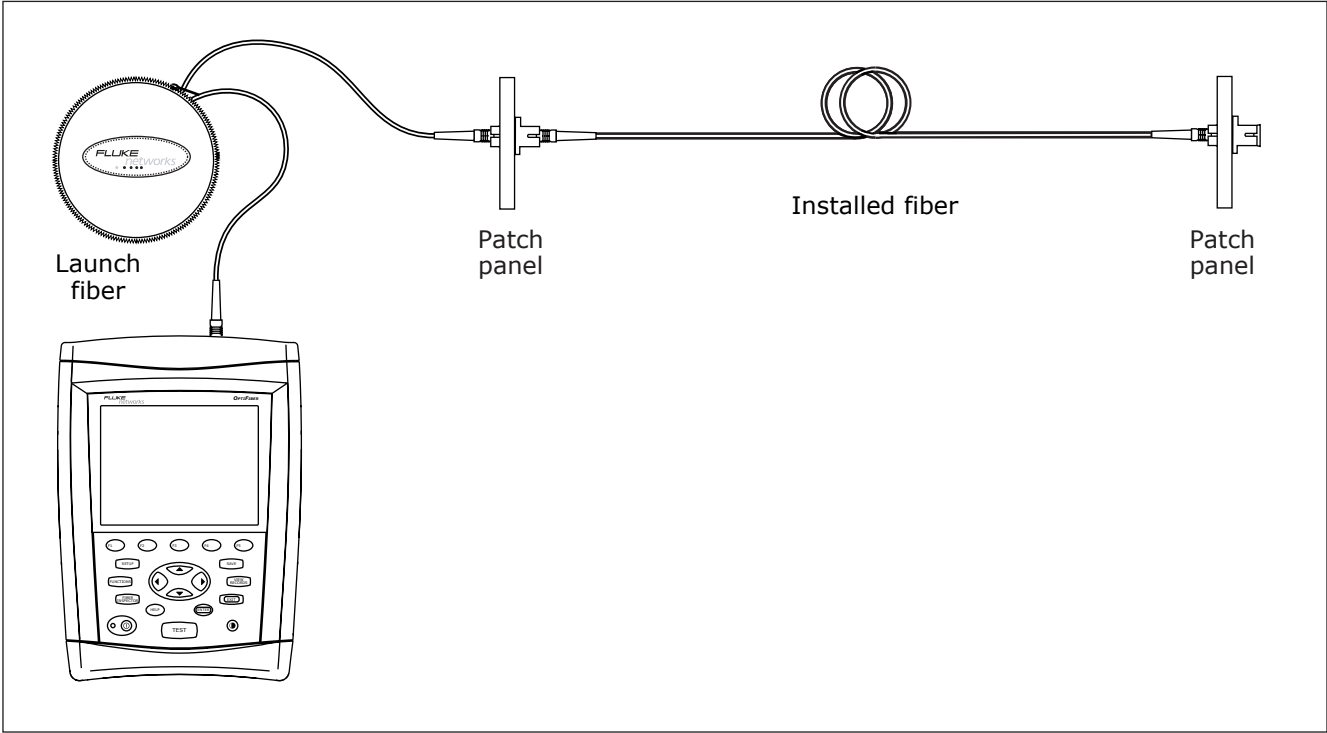

Figure 9. Connecting the OTDR to Installed Fiber (no receive fiber)
- 6 Connect the tester's OTDR port to the cabling, as shown in Figure 9, 10, or 11.